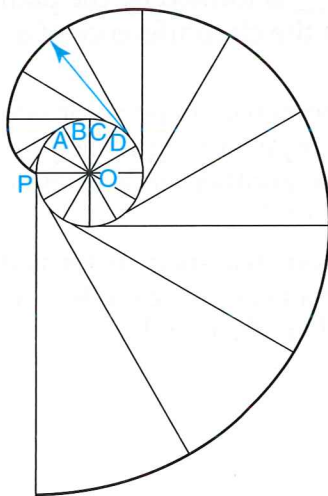

Figure 7-30. Constructing an involute of a circle.
1. Circle O and the starting point (Point P) are given, **Figure 7-30**.
1. Circle O and the starting point (Point P) are given. Refer to **Figure 7-30**.
4. Use the **Offset** command to offset the radial lines. Offset each line at a distance equal to the length of the corresponding circle arc. Refer to **Figure 7-30**. For example, Line A should be offset at a distance equal to the length of Arc AP and Line B should be offset at a distance equal to the length of Arc BP. To determine the length of each arc when entering the offset distance, use the system calculator. Multiply the circumference of the circle by the fractional portion of the circle arc on the circumference. For example, the length of Arc AP is equal to the circumference multiplied by $1/12$ ($30^\circ \div 360^\circ = 1/12$). The circumference of the circle can be entered into the system calculator directly by using the **Properties** command and selecting the circle.